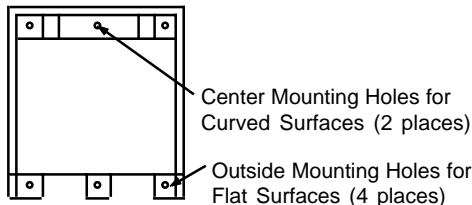

Figure 4-11. Junction Box Mounting
2. See Figure 4-11. Hold the junction box at the previously marked mounting location. Mark the four outside mounting holes.